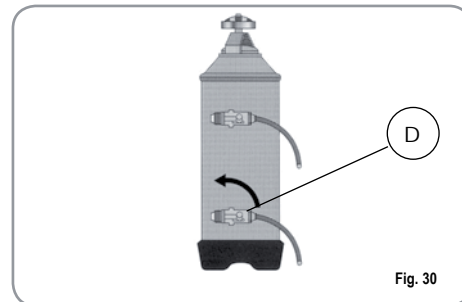

Fig. 30
3) Reposition lever D towards the left (Fig. 30).